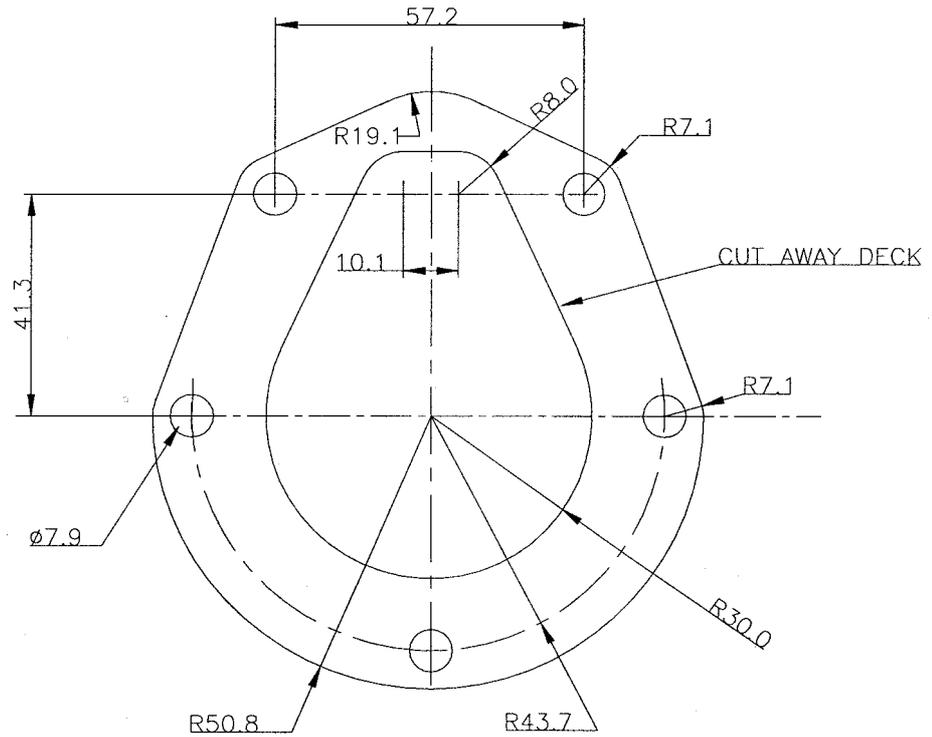
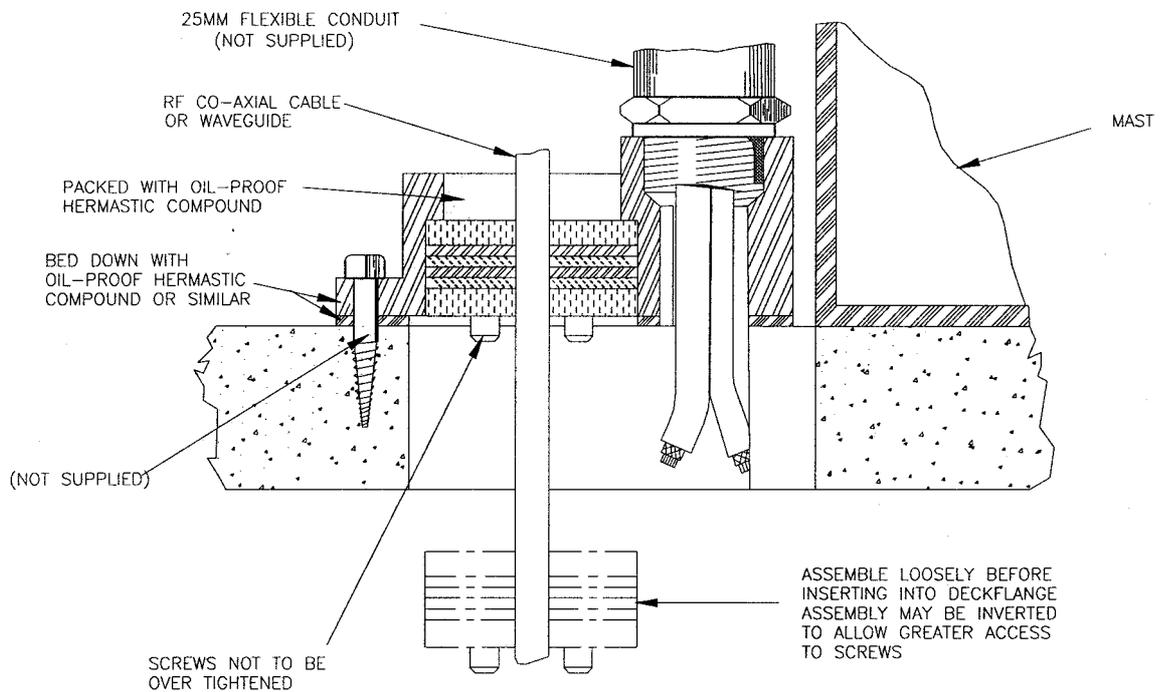

Figure 3.33. Deck Gland Fixings
Figure 3.34. Deck Gland Details
10. After cutting the deck and fitting the flange using suitable fixings (not supplied – see Figure 3.33), assemble the deck flange split gaskets (refer to notes) loosely around the waveguide section from below and slide the assembly upwards into the deck gland (see Figure 3.34). Secure the waveguide down the mast then tighten the four split gasket screws carefully. Do not over-tighten the screws. This avoids possible distortion of the waveguide.
- a. Fill the space between the waveguide and deck gland with hermetic oil-proof compound (see Figure 3.34).
Initially, assemble the gaskets loosely before inserting them into the deck flange (see Figure 3.34). This assembly may be inverted to allow greater accessibility to the screws.